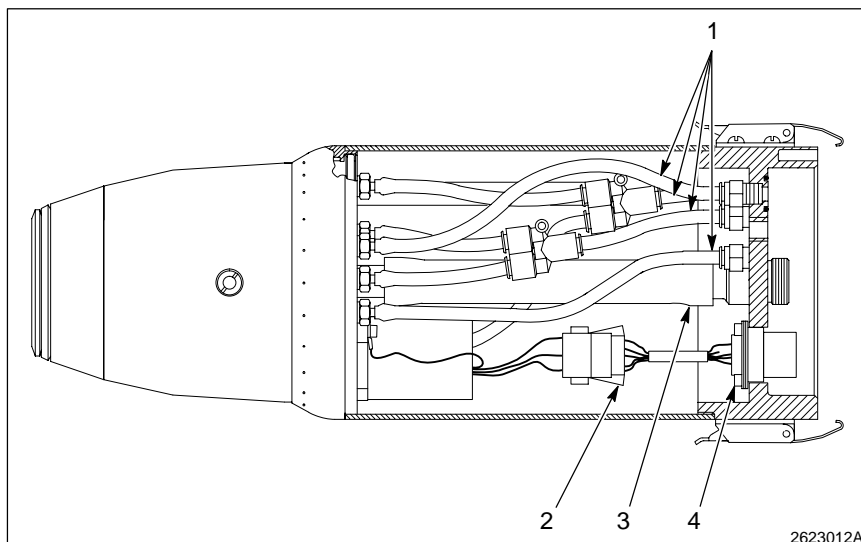

Fig. 7-3 Motor electrical plug and 4 air supply hoses
4. Remove the electrode ring (4).
5. Use the grip pad from the powder bell tool kit to loosen and remove the diffuser ring (6). Turn counterclockwise.
6. Remove the outer shell (7). Press the spindle lock button (5) for clearance.
7. See Figure 7-3. Remove the 4 screws (4) that secure the motor cable.
8. Disconnect and remove the motor cable (2).
9. Disconnect the 4 air hoses (1) at the base end of the powder bell.